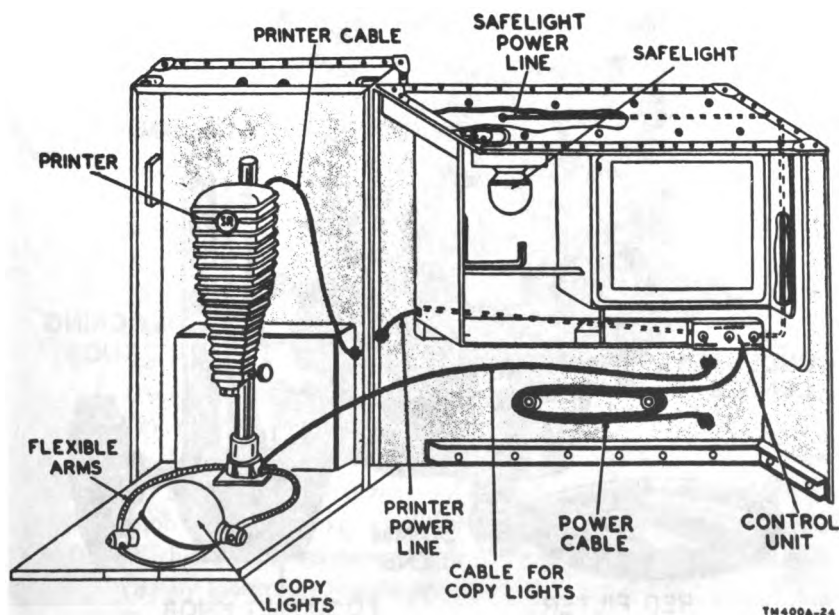

Figure 24. Part of Photographic Equipment Carrying Case FM-22 (1), showing cables for connecting components.
(fig. 24)
a. Unwind the power cable assembly (fig. 24) from the retaining pegs in the case.